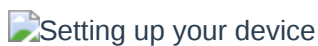

Figure 164: Setting up your device
3. Select your target port where your **RAK3172** is connected. Once recognized, click **CONNECT**, as shown in **Figure 164**.